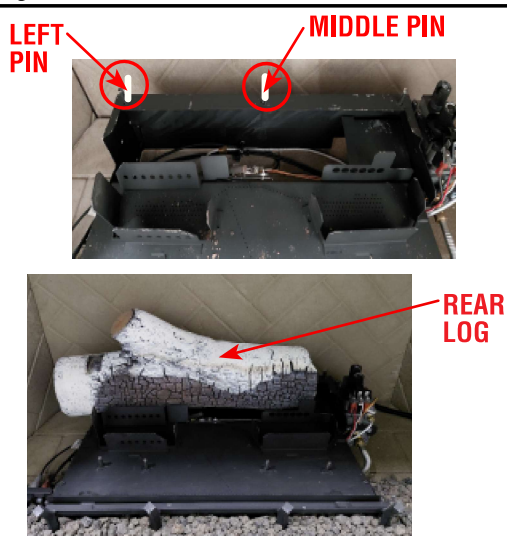

FIGURE 38
1. Place the Rear Log over the left and middle pins on the burners back bracket using the holes provided in the bottom of the log as shown in **Figure 38**.